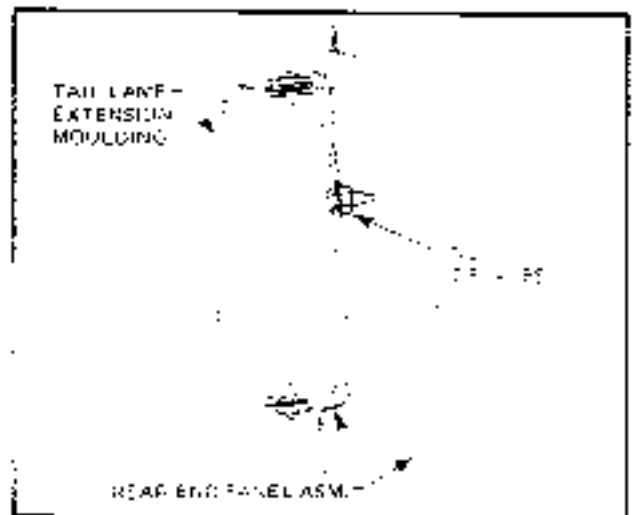

Figure 12B-6
4. Remove the five tail lamp mounting screws from inside the boot, refer Fig 12B-7, remove tail lamp assembly